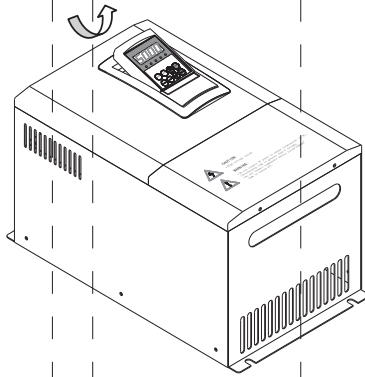

Fig. 3-12 Mounting Diagram for the operator panel and connecting wire of the inverter Model B
Step 1. Hand down in the notch of the upper of the keypads . press down and buckle up. Then remove the keypad . (as shown in Figure 3-12).